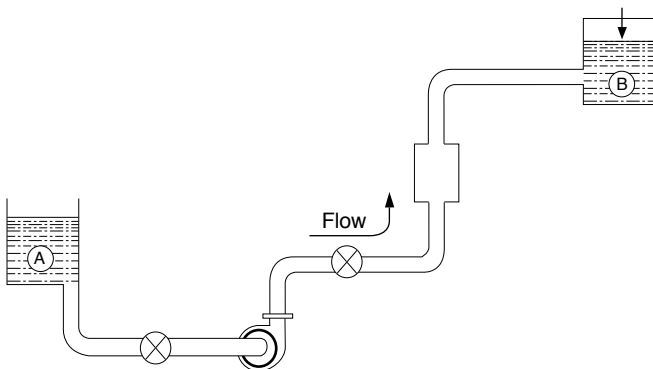

FIGURE 54. Simple Pump System with a Difference in Elevation and Pressure
- Another complication to the system can be introduced: the pressure at Point B can be greater than at Point A because Point B is a closed tank (Figure 54).